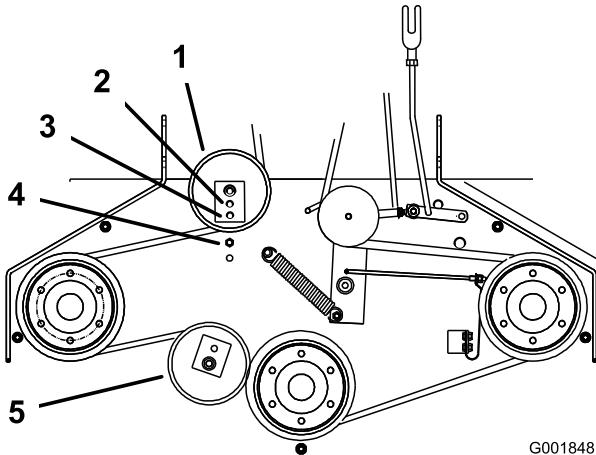

Figure 39
6. If there is no adjustment left in the turnbuckle and the belt is still loose, the rear idler pulley needs to be positioned to the middle or front hole (Figure 39). Use the hole that will give the correct adjustment.
7. When the idler pulley is moved the belt guide must be moved. Move the belt guide to the front position (Figure 39).